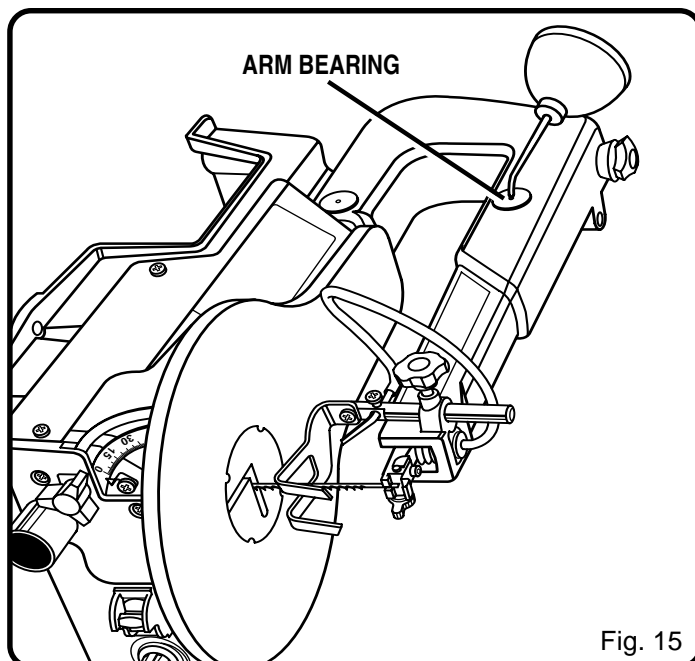

Fig. 15
See Figure 15.
- Carefully place the saw on its side as shown in Figure 15. Remove the rubber cap from the upper and the lower arm of the saw.